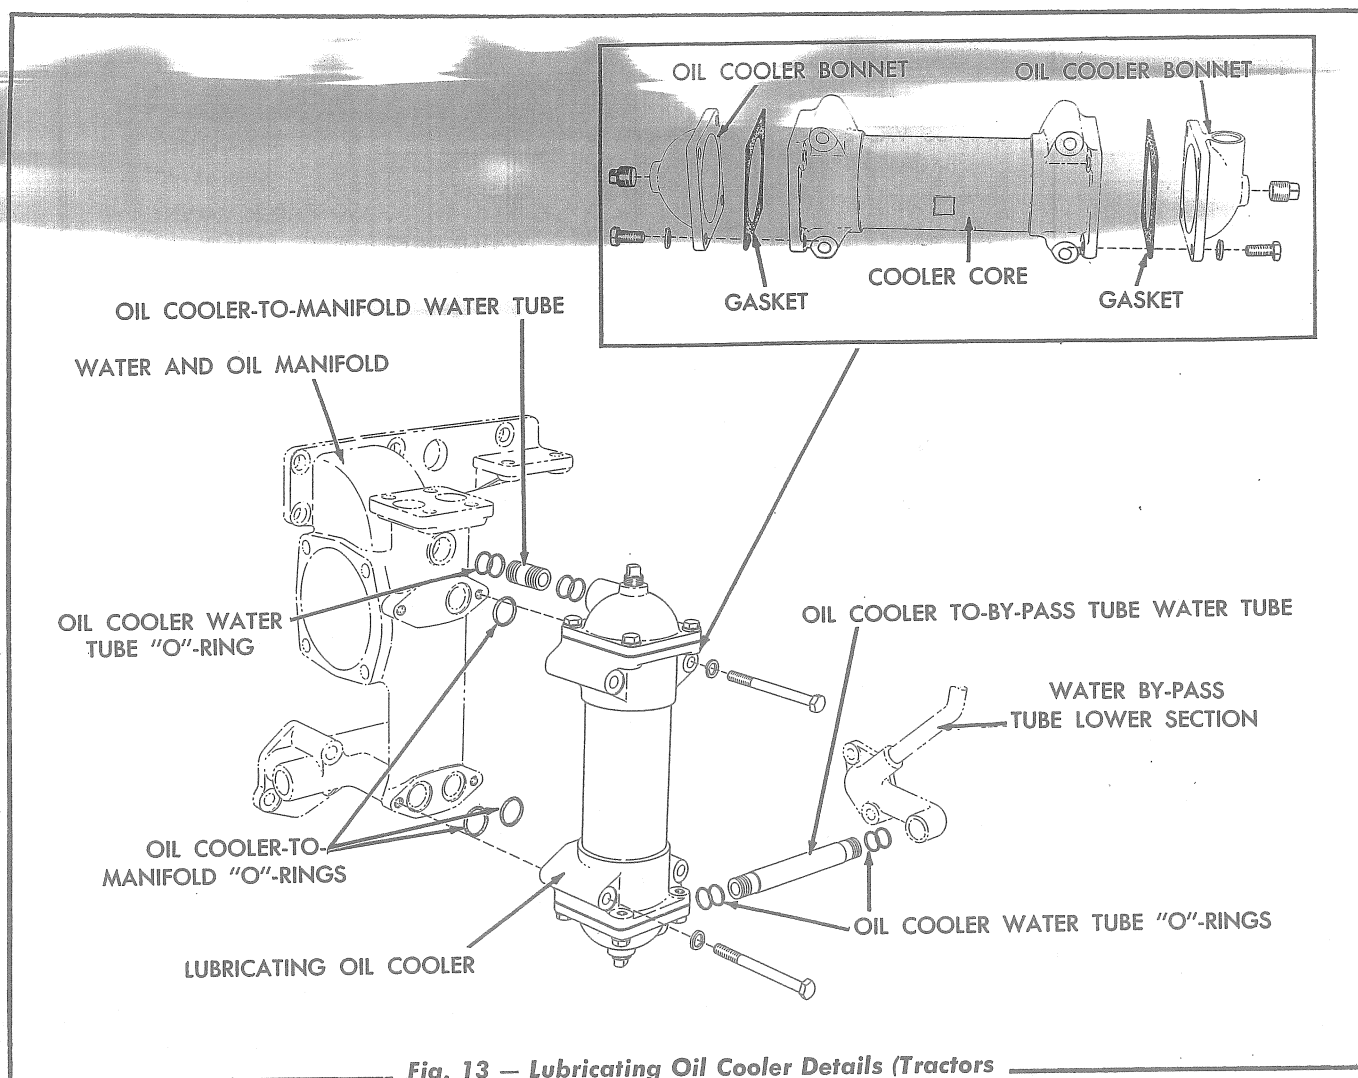

Fig. 13 — Lubricating Oil Cooler Details (Tractors Serial No. 4001 and Above)
- c. Refer to Fig. 13 and move the top of the oil cooler outward from the manifold to free the oil cooler-to-manifold water tube, move the bottom of the oil cooler to the rear of the engine to free the tube between the oil cooler and the water by-pass tube lower section and remove the oil cooler from the engine.
- a. Refer to Fig. 13 and install new "O"-rings in position in the grooves machined in the O.D. of the oil cooler-to-by-pass
- b. Refer to Fig. 13 and install "O"-rings in position in the grooves machined in the O.D. of the oil cooler-to-manifold water tube.
- c. Position "O"-rings in the three counterbores in the water and oil manifold (Fig. 13).